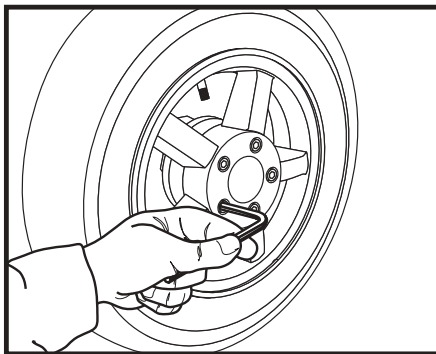

Figure 27. Wheel Removal
2. Remove the five (5) screws that fasten the wheel to the PMV. See figure 27.